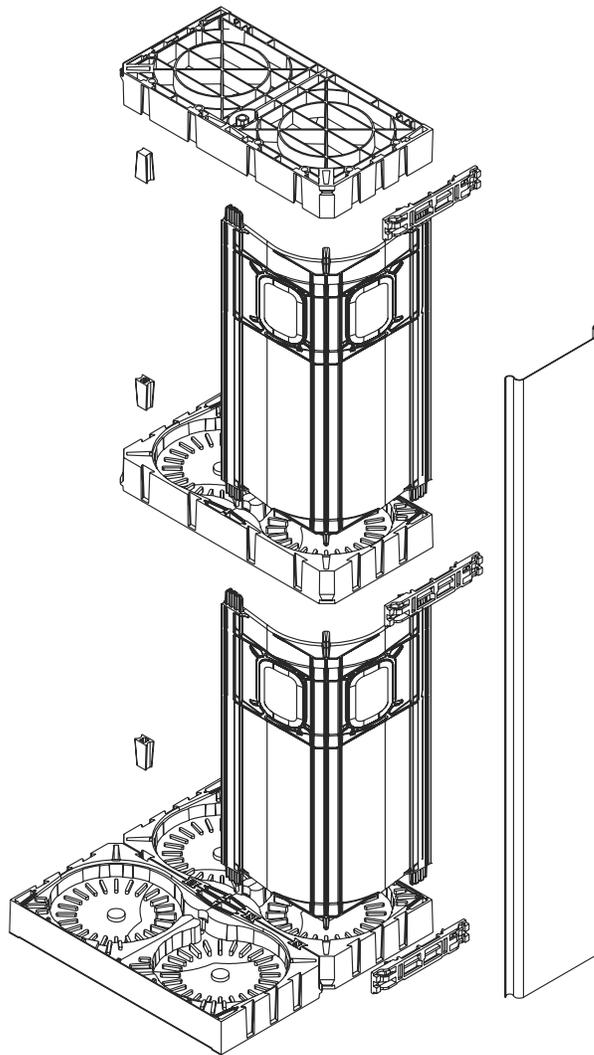

Figure 4-14: Stand Assembly
14. For seismic applications the top most tier of bases (not supporting batteries) must be installed with the cell cavities facing down (see Figure 4-14). Dovetail keys require being installed into each base before being assemble on top of the stand. Starting at one end of the stand, the dovetail key should be inserted into the first base on two adjacent sides. Each successive base only requires one side to have dovetail keys to be installed.